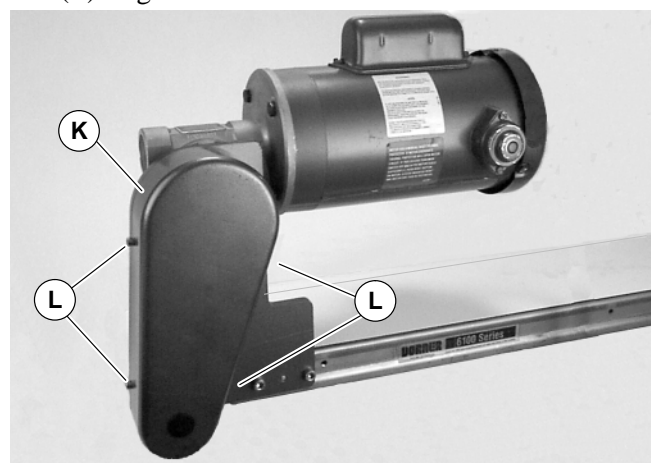

Figure 10
9. Install cover (K of Figure 10) with four (4) screws (L). Tighten screws to 4 Nm.
1. Remove four (4) screws (L of Figure 10) and remove cover (K).
4. Install cover (K of Figure 10) with four (4) screws (L). Tighten screws to 4 Nm.
6. Install cover (K of Figure 10) with four (4) screws (L). Tighten screws to 4 Nm.